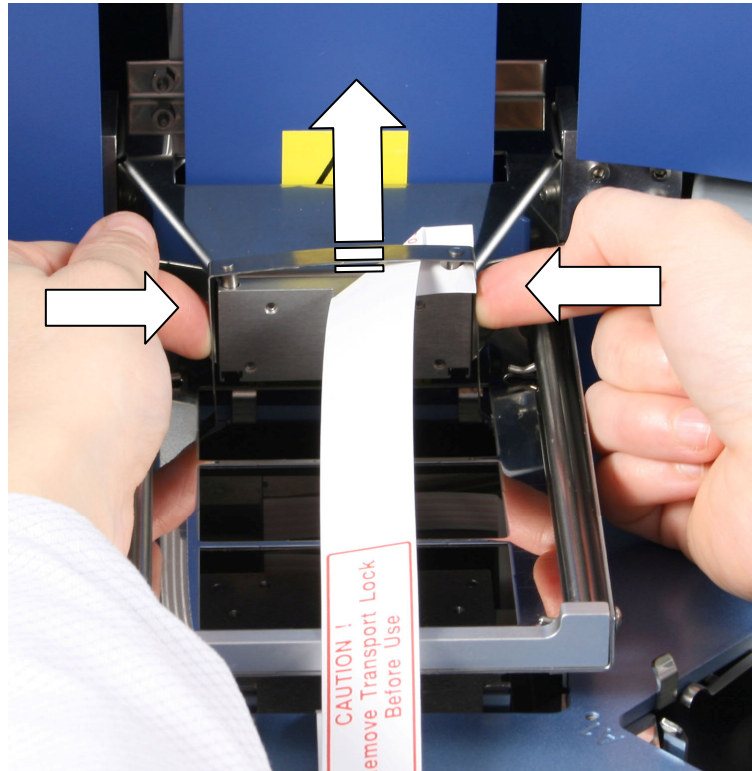
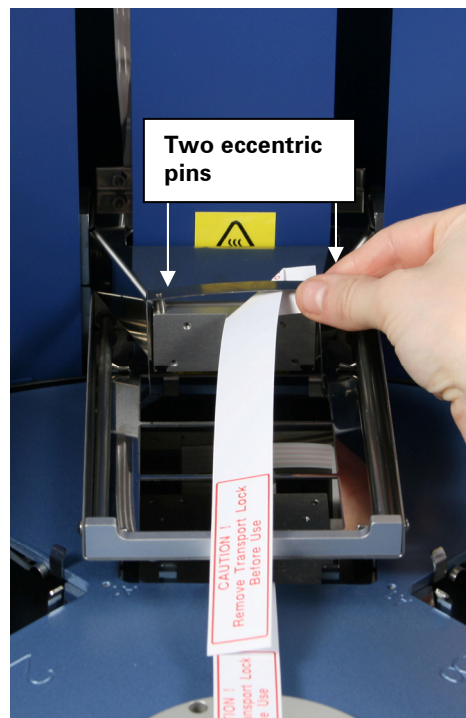

Fig. 5.3 Removing the transport lock of the tip comb holder (B)
Fig. 5.4 Tip comb holder transport lock removed
2. Lift the tip comb holder higher and continue pressing the transport lock of the tip comb holder. Remove the transport lock from its location by ejecting it from the two eccentric pins (Fig. 5.3 and Fig. 5.4). When relocating the instrument, refer to Section 5.4.2 How to refit the transport lock of the tip comb holder.
**Keep the transport locks (Fig. 5.4 and Fig. 5.7) for future transportation of the instrument.** Both the transport locks have been successfully removed. When relocating the instrument, refer to Sections 5.4.1 How to refit the transport lock of the heating block and 5.4.2 How to refit the transport lock of the tip comb holder.